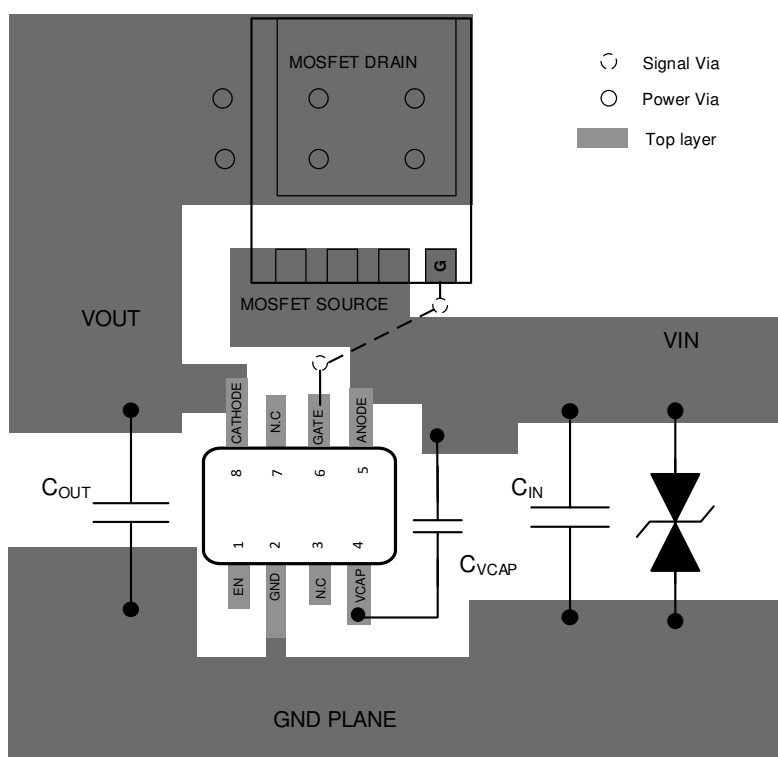

图 11-1. LM74700-EP DDF Package Layout Example
- Obtaining acceptable performance with alternate layout schemes is possible. However, the layout shown in 图 11-1 is intended as a guideline.